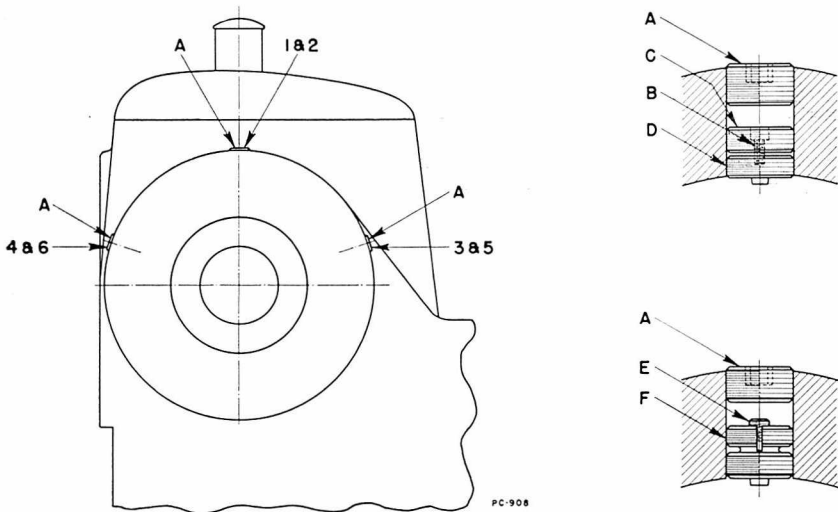

Figure 33
3. Remove six oil plugs "A" at 1, 2, 3, 4, 5 and 6 (Figures 33 and 34).
4. The method of adjustment from this point on varies depending upon whether the machine is a new or old model. The old model is adjusted, as in the lower section in Figure 33, by loosening screw "E" and adjusting the screw "F". The new model is adjusted, as in the upper section in Figure 33, by removing screws "B" and "C" and then adjusting screw "D".